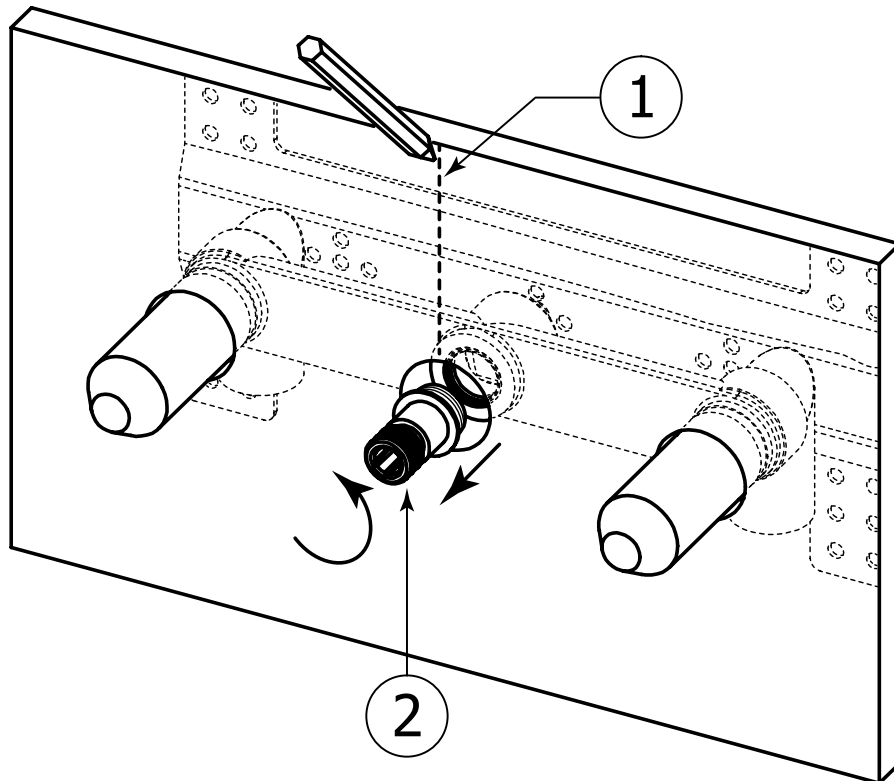

Fig. 4
- Fig. 4:** **The male insert (2) placed on your rough should be carefully marked (1) on the topmost point before unscrewing it from the rough body**